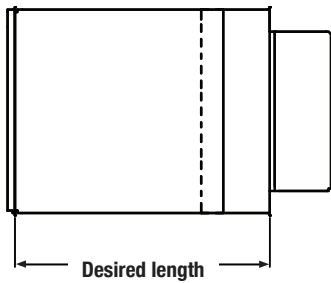

Figure 52 - Adjustable length, INSTALLATION STEP A
- a. Adjust the length of the chimney as required. If outer casing or inner flue are too long, they may be cut to length. You must keep the overlap of the outer casing to at least 1". You are only authorised to cut on the outer casing section attached to the female coupling. See **Figure 52**.